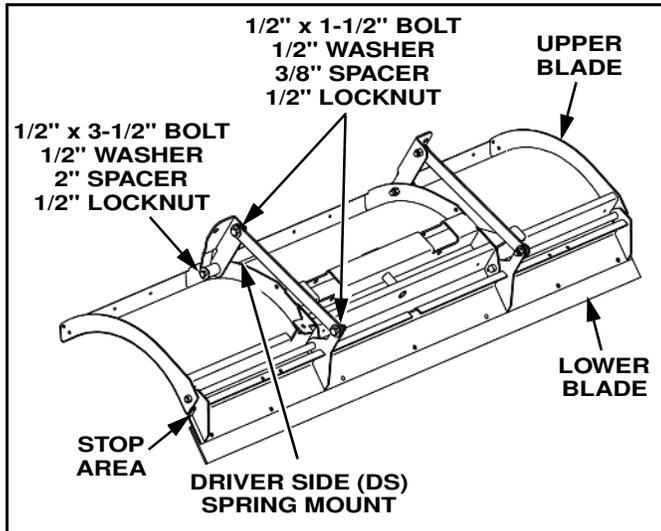

Figure 1-5
3. Place blocking under the upper blade so that the lower blade swings forward and the stop areas on the upper and lower blade touch. (See Figure 1-5)
4. Take out the Drivers Side Spring Mount. Place a 2" spacer in the tube on the mount. (See Figure 1-5)
5. Bolt the Drivers Side Spring Mount to the Drivers Side inner rib on the upper blade using a 1/2" hardened washer on the spacer side, 1/2" x 3 1/2" bolt, and 1/2" lock nut. (See Figure 1-5)
6. Take a Spring Mount Plate and two 3/8" spacers and bolt it to the Spring Mount and the tab on the lower blade. Use two 1/2" hardened washers on the spacer side, two 1/2" X 1 1/2" bolts, and two 1/2" lock nuts. (See Figure 1-5)